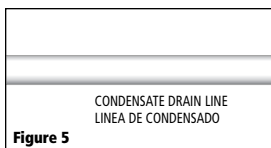

Figure 5
5. Glue condensate line from center leg of Tee to outside building (**Figure 5**).